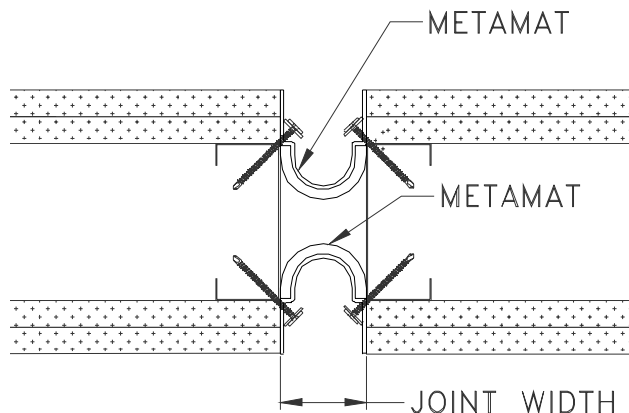

Figure 3
STEP 3. Repeat Step 1 and Step 2 for the other MetaMat layer on the opposite face of the wall (Figure 3).